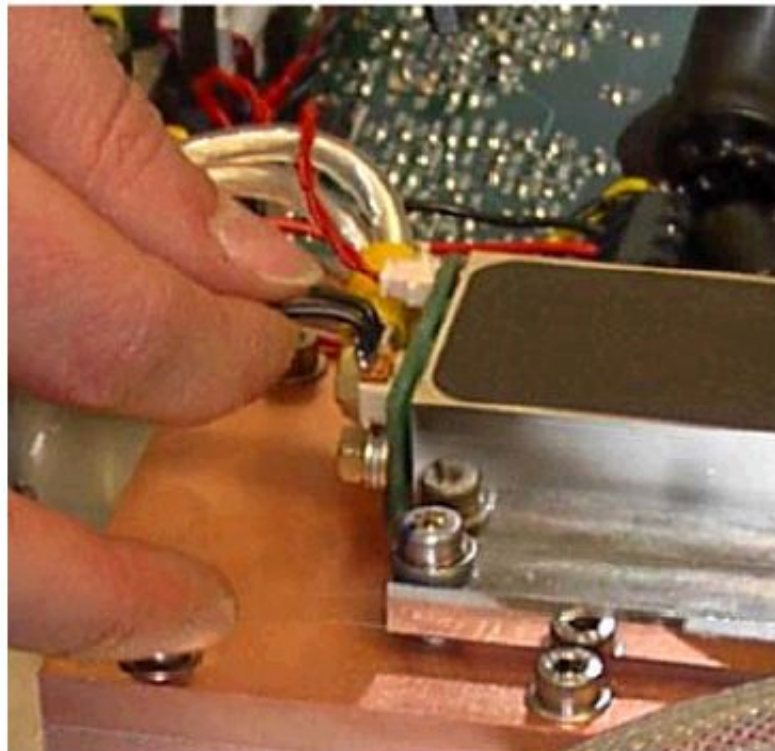

fig. 5
4) Insert the shorting connector to protect the laser diode as shown [fig.5]
18) Disconnect the shorting connector from the laser diode module. [as fig.5]